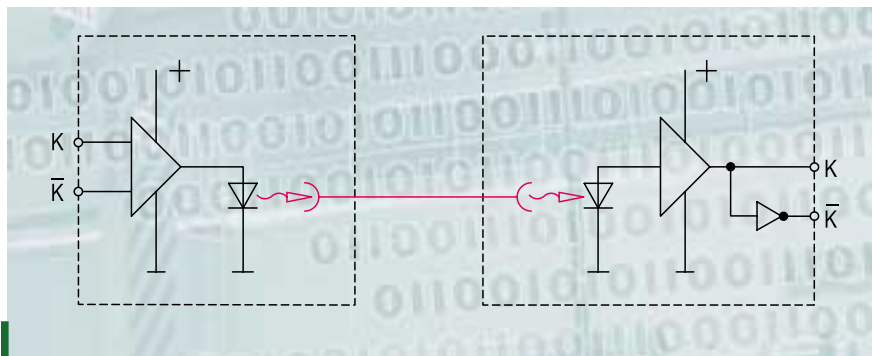

Figure 32: Fibre optics technology ensures reliable transmission of signals over long cables even in the presence of severe interference.
- The **fibre optic modules HEAG 171 ➔ 174** with fiber optic link are used for reliable transmission of squarewave signals under extremely severe conditions (➔ Figure 32).